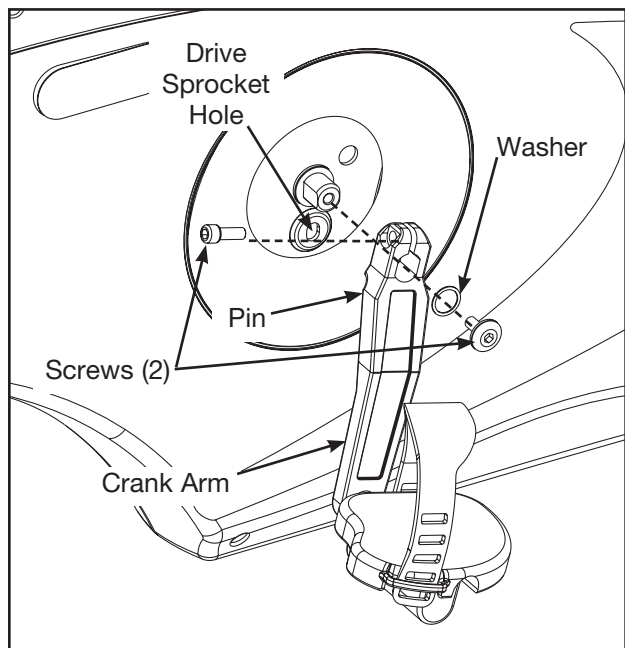

Figure 3
- A. Using a 6 mm Allen wrench, remove the two screws and washer securing each of the crank arms. See Figure 3.